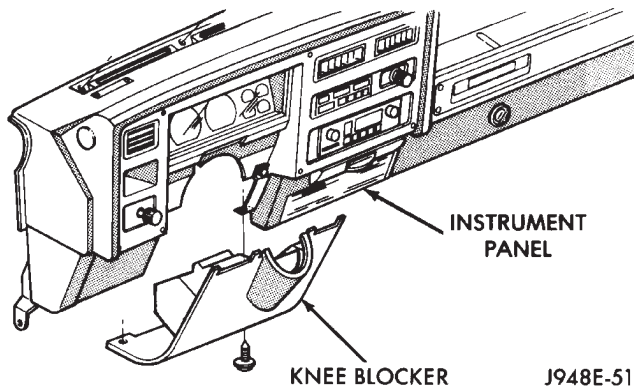

Fig. 4 Knee Blocker Remove/Install
- (1) Disconnect battery negative cable.
- (2) Remove tilt lever (if equipped).
- (3) Remove screws along bottom edge of knee blocker (Fig. 4).